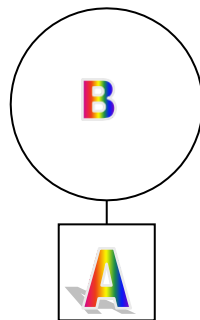

Figure 35. problem 2.53
2.40 A rigid vessel A is connected to a spherical elastic balloon B as shown in figure 35. both contain air at the ambient temperature 25°C . The volume of the vessel A is 0.1m^3 and the initial pressure is 300kPa. The initial diameter of the balloon is 0.5m and the pressure inside is 100kPa. The valve connecting A and B is now opened, and remains open. It may be assumed that the pressure inside the balloon is directly proportional to its diameter, and also that the final temperature of the air is uniform throughout at 25°C . Determine the final pressure in the system and the final volume of the balloon?